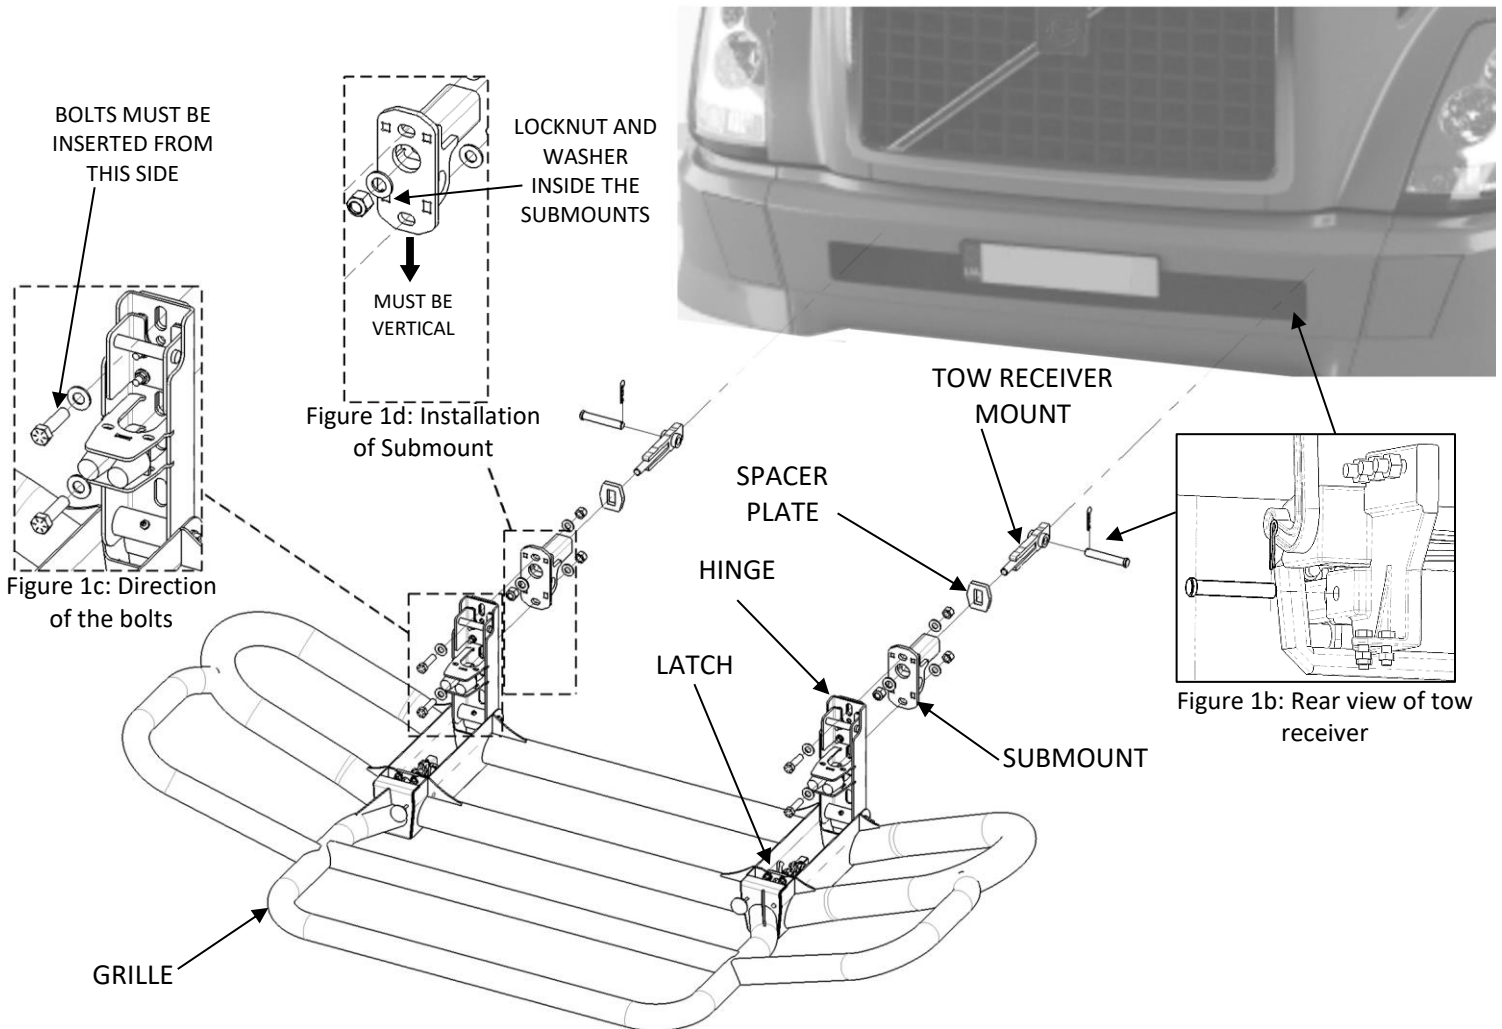

Figure 1a: Grille Guard installation (Your Grille Guard may not be exactly as shown)
4. Open driver side Hinge and lift to driver side Submount. Hand tighten upper hardware shown in Figure 1a (**do not fully tighten**). Repeat for passenger side. **Ensure bolts are inserted from front (Hinge side) as shown in Figure 1c.**